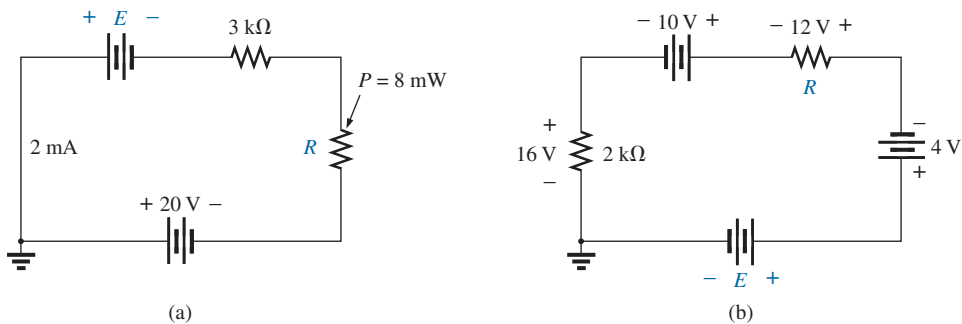

FIG. 5.103
19. Find the unknown voltage source and resistor for the networks in Fig. 5.103. First combine the series voltage sources into a single source. Indicate the direction of the resulting current.